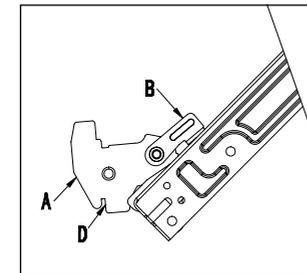

Fig.1
- » Open the door completely and lift the 2 levers "B" (Fig.1);